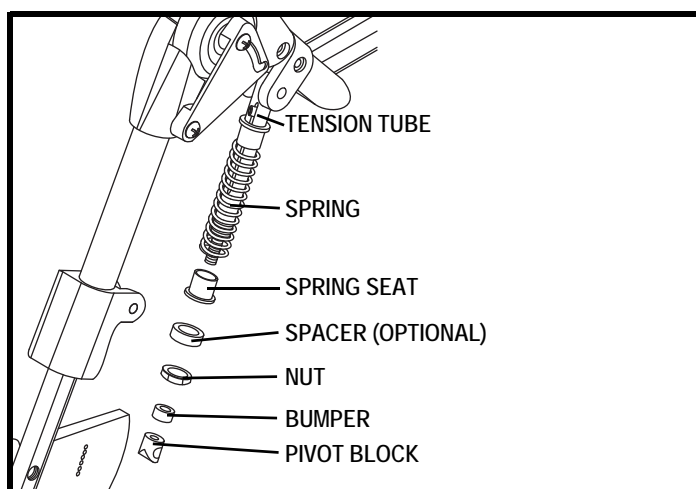

Figure 42. Knee Extension Limiter, Exploded View
3. Remove the bolt connecting the pivot block to the lower leg rest rigging. **See figure 42.**